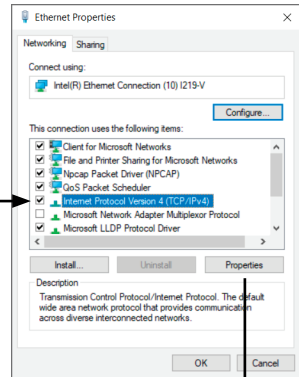

Fig. 7
3. On the properties screen, select Internet Protocol Version 4 (TCP/IPv4) and click on Properties (Fig. 7).